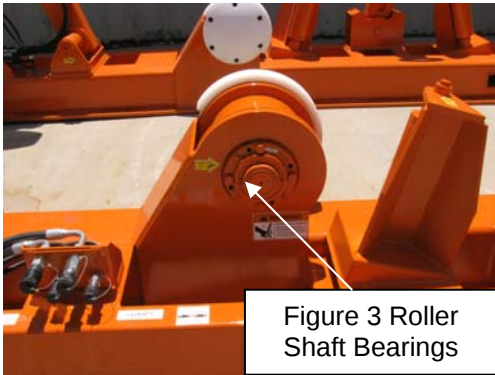

Figure 3 Roller
- A. Roller Shaft Bearing Fig. 3 & 4A Cover has to be removed to grease 4A.